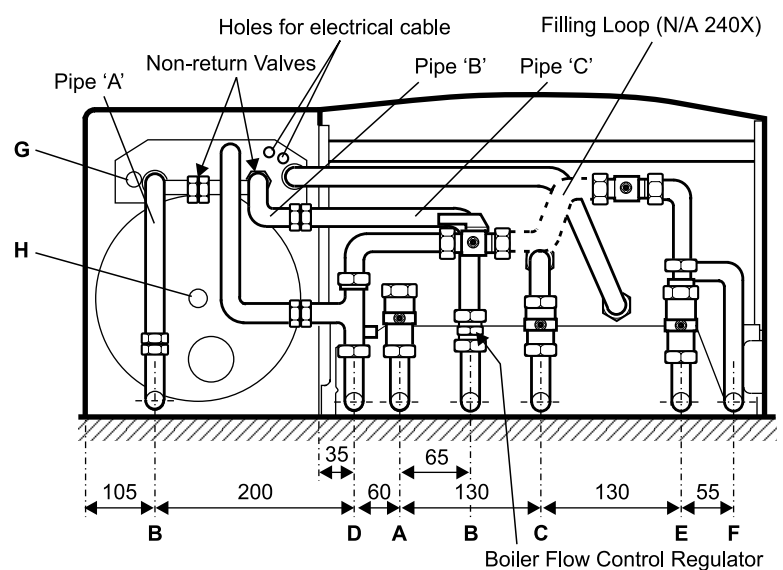

Fig. 3a - CombiMax 350
4.4 CONNECT THE PIPEWORK - Fig. 3a or 3b
2. Secure all the valves/fittings between the CombiMax and boiler as shown in Fig. 3a (CombiMax 350) or 3b (CombiMax 600). Use the washers supplied and ensure the necessary fittings face the rear wall. Fit the union bends to the valves.
b. Ensure the 22 mm isolating valve with the filter is fitted to the heating return connection as shown in Fig. 3a or 3b.